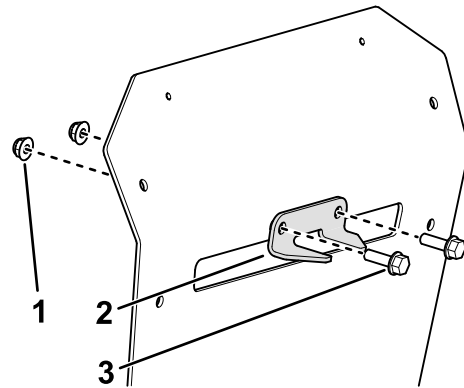

**Figure 12**
- Remove the existing 2 bolts, 2 nuts, and hitch bracket from the bottom of the rear guard (Figure 12).